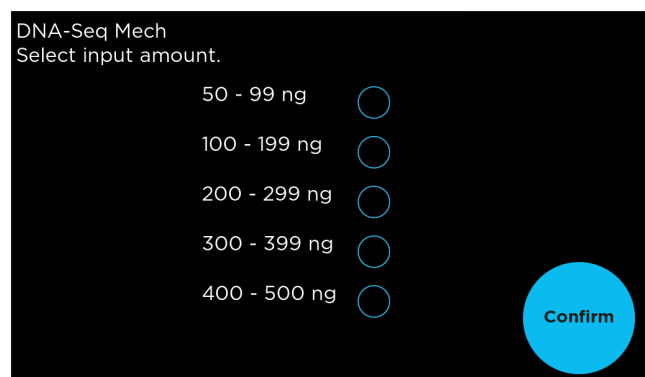

Figure 12. Input range definition.
6. Select the input range that corresponds to your sample input amount and touch “Confirm” (Figure 12).
7. Select the optimal number of PCR cycles for your input. The recommended number of PCR cycles will be populated based on your sample input quantities (Table 2). You may adjust the number of PCR cycles to suit your particular samples (Figure 12).